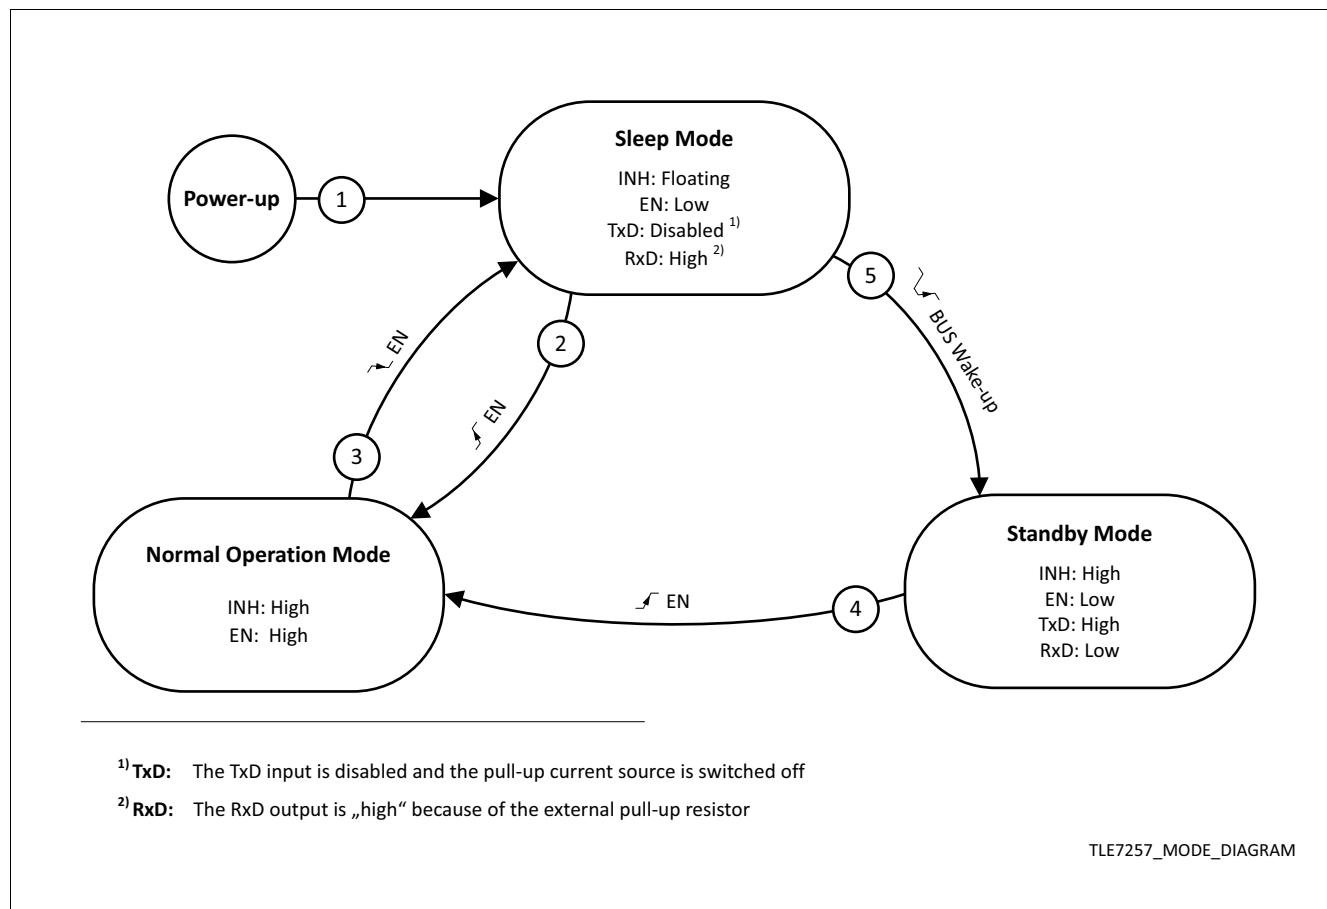
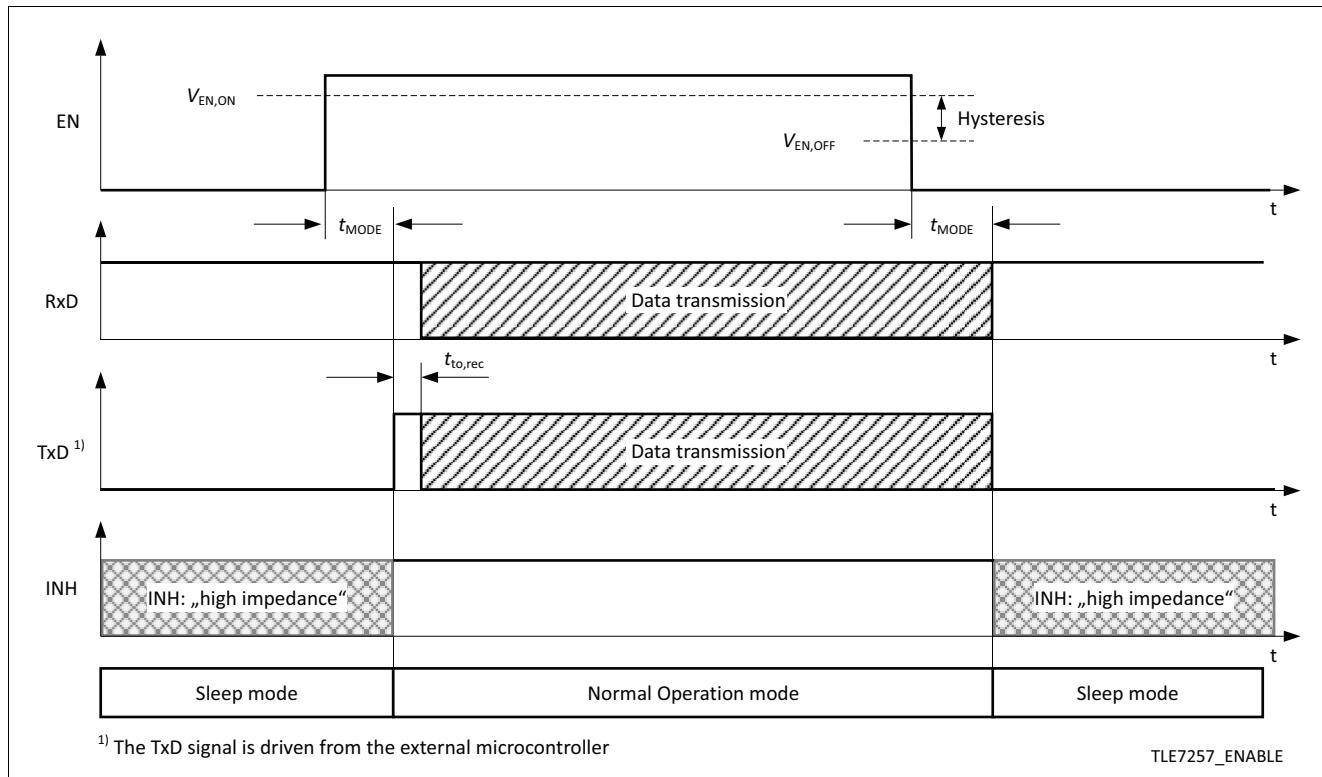

Figure 4 Operation mode state diagram
Figure 9 Entering Normal Operation mode from Sleep mode
The TLE7257 has 3 major operation modes (see Figure 4):
Normal Operation mode can be entered from either Sleep mode (see Figure 9) or from Standby mode (see Figure 5), by setting the EN input to logical "high". From Normal Operation mode the TLE7257 can only enter Sleep mode, it is not possible to enter Standby mode directly (see Figure 4).
- The RxD output indicates a wake-up event (see Figure 4 and Table 1).
To switch the TLE7257 from Normal Operation mode to Sleep mode, the EN input has to be set to “low”. Conversely a logical “high” signal on the EN input sets the device directly back to Normal Operation mode (see Figure 4). The TLE7257 can only enter Sleep mode from Normal Operation mode.
The EN input is used for operation mode control of the TLE7257. By setting the EN input logical "high" for the time t_{MODE} while being Sleep or Standby mode, a transition to Normal Operation mode will be triggered (see Figure 9). The EN input has an integrated pull-down resistor to ensure the device remains in Sleep or Standby mode even if the EN pin is left open. The EN input has an integrated hysteresis.